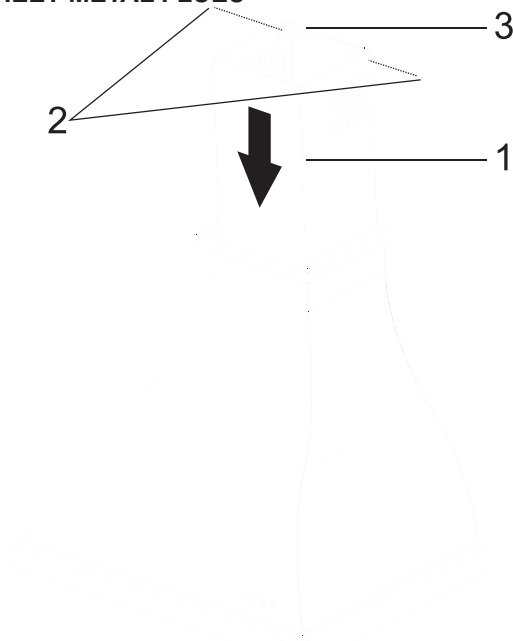

Fig. 12: ASSEMBLY OF PLATE FUELS
- Insert the sheet metal flue inside the body (Fig. 12).